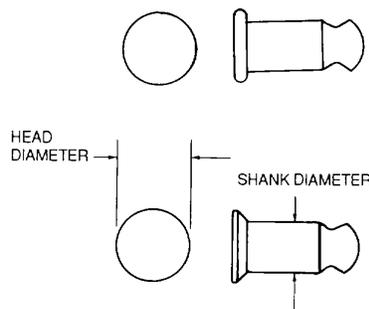

Figure 2-54. Hi-Shear Rivets
*h. Hi-Shear Rivets.* Hi-shear (pin) rivets, as shown in figure 2-54, are essentially threadless bolts which are inserted like rivets Each rivet consists of two parts a stud and a collar. The stud is made of 4130 alloy steel, or equivalent, heat-treated to 125,000 to 150,000 psi, and cadmium-plated The collar is anodized 2117-T4 aluminum alloy. The installed rivet can be readily identified by the presence of the attached collar rather than the ordinary formed head of the standard rivets Use Hi-shear rivets in shear applications only As the shear strength of the steel is considerably greater than either the shear bearing strength of aluminum alloys, these special rivets are used to advantage only in the thicker sheet gauges Never use Hi-shear rivets where the grip length is less than the shank diameter (3/16-inch for smallest available rivet). Use the 100-degree countersunk type where flush surfaces are desired Hi-shear rivets may be replaced with close tolerance bolts of the same material, strength and diameter, where absolutely necessary. Use flush-headed bolts for flush-headed rivets and protruding head bolts for protruding head rivets. The bolt thread must not extend into the material.